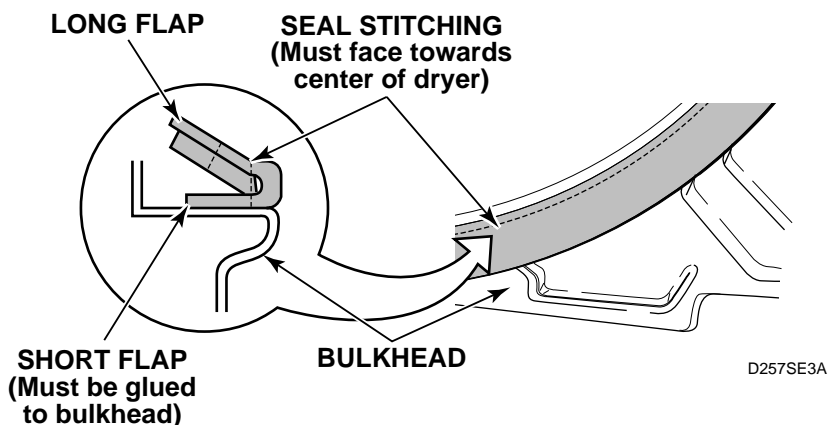

Figure 48
i. Front Cylinder Seal (*Figure 48*)
- (1) The stitching on the seal must face towards the dryer center. See *Figure 48*.
- (2) The short flap, shown in *Figure 48*, must be glued to the bulkhead and the long flap left loose.